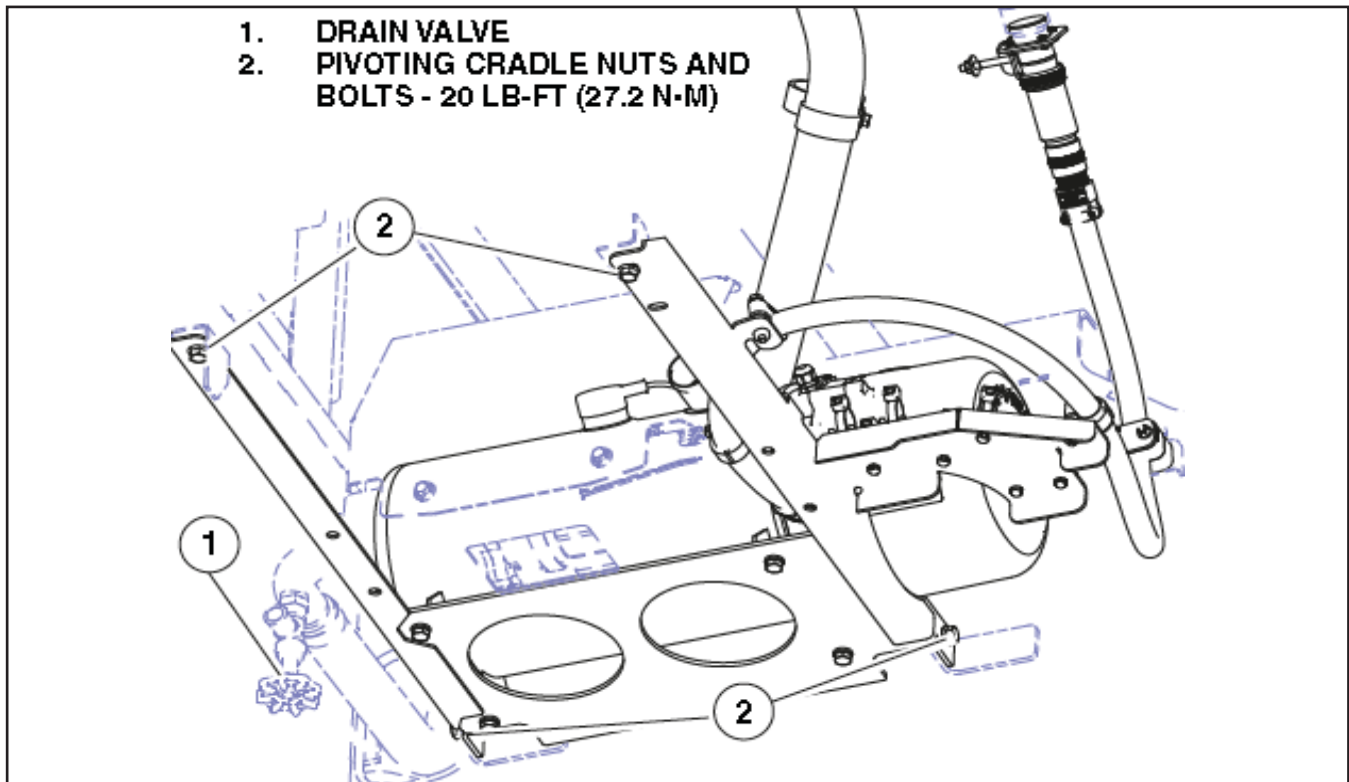

Figure 14 - Underside of Auxiliary Heater and Cradle
- 2.9. Secure the auxiliary heater back in place. Torque shown on figure 14.